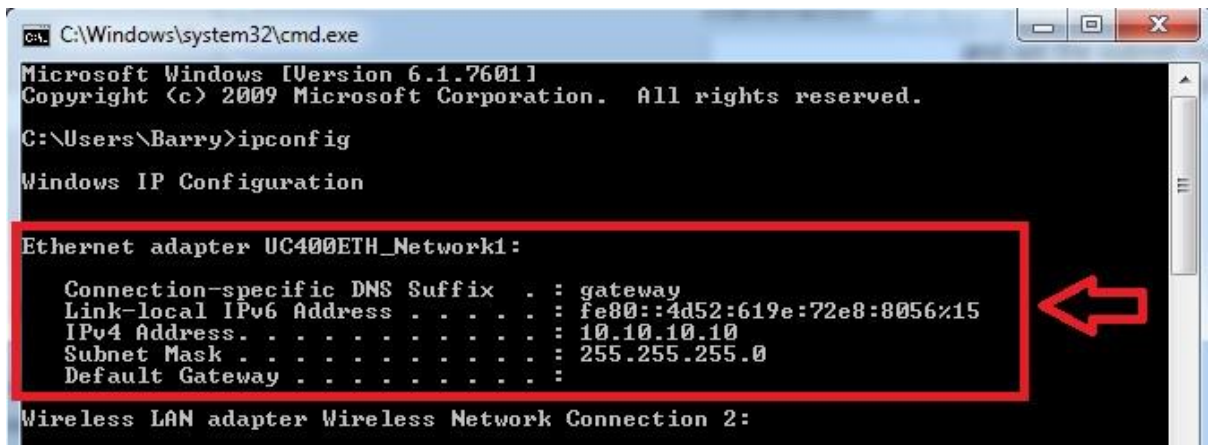

Figure 32: ipconfig settings confirmation
- To verify that the settings got validated open up a command window with typing 'cmd' into the start menu and in the command window type 'ipconfig'. The result should look like as on the following image in Figure 32. Please note that the Ipv4 address of our adapter got the 10.10.10.10 value with a subnet mask of 255.255.255.0 value.